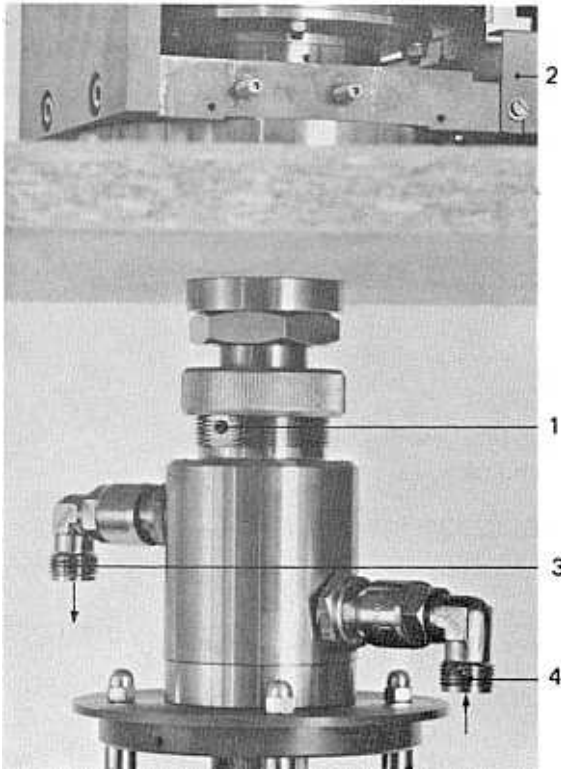

Fig. 2 Source lower section
- a. From the water valve outlet (currentless, open) to the water inlet of the source (refer to fig. 2, item 4).
- b. From the water outlet of the source (refer to fig. 2, item 3) to the inlet of the water flow control switch (note direction of flow).